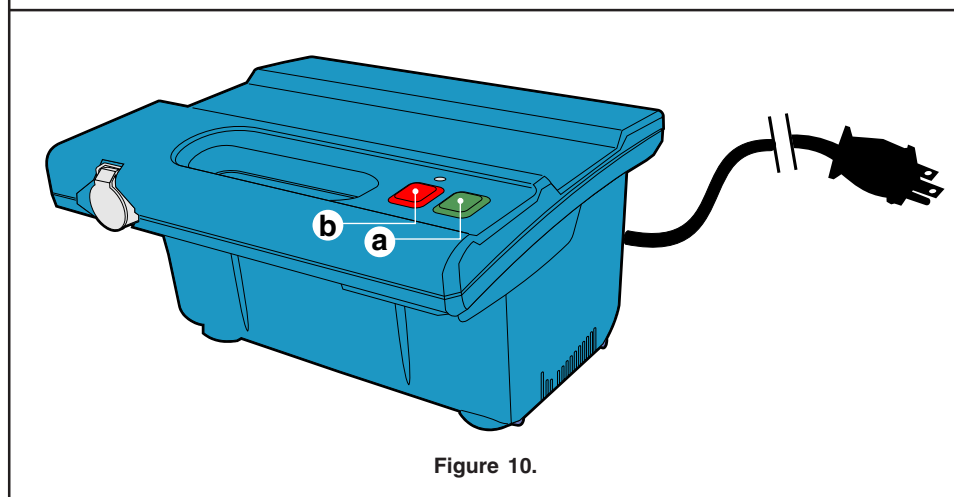

Figure 10.
6. The Power Supply (Transformer) is now ready for operation. Listed below are the Transformer buttons as shown in Figure 10: